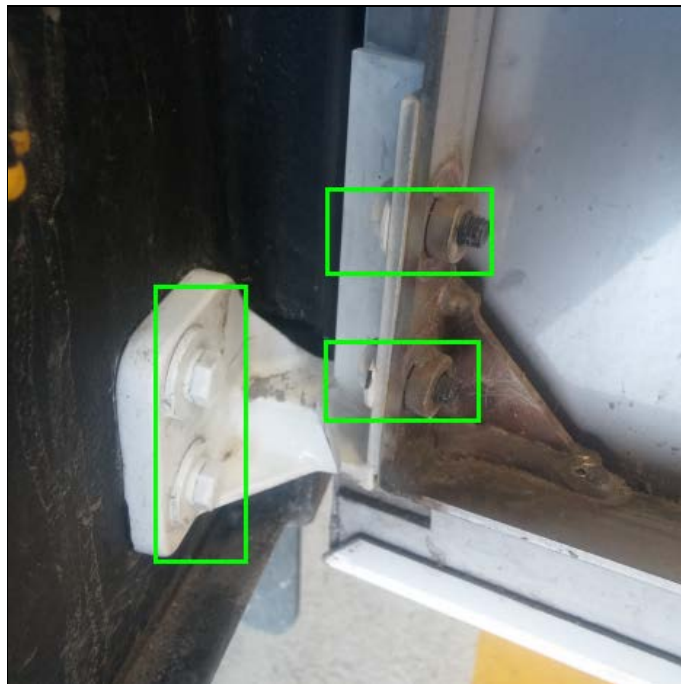

FIG.11 LOWER HINGE BOLTS
3. Unscrew and remove *both parts* of the lower hinge (4X M6 bolts Fig.11)